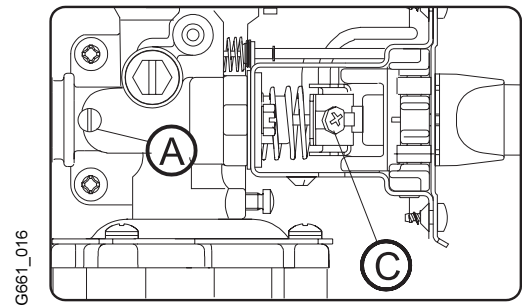

Fig. 6
2. Remove inlet test point screw A (fig. 6).
- e) Adjust the pressure using screw C (fig. 6), in compliance with the table supplied together with the conversion kit.